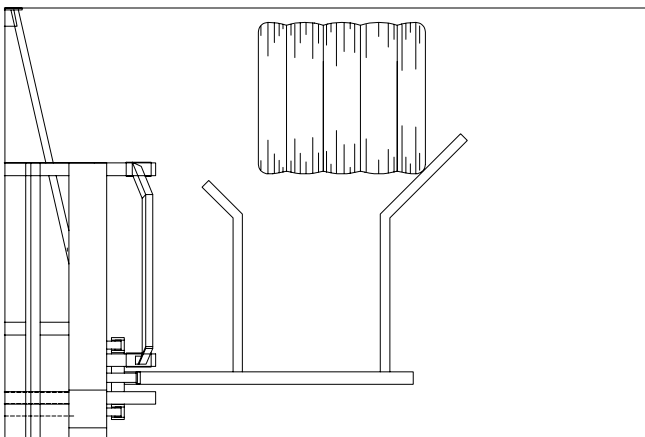

Figure 17
- 3) When ready for the first bale, lower the loading arm to just a few inches above the ground, slow down this is a practice round, line up the machine so that the outer corner of the bale will touch at approximately 1/3 to 1/2 way up the angled part of the outer arm. (Figure 17)